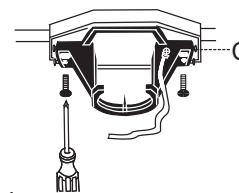

Fig. 4
4. Secure mounting bracket (C) to outlet box using screws, spring washers, and flat washers (size 8) provided with the outlet box. [Fig. 4]
***Note:** It is very important that you use the proper hardware when installing the mounting bracket (C) as this will support the fan. Please make certain that you purchase any hardware that is missing in order to install the mounting bracket (C) properly.